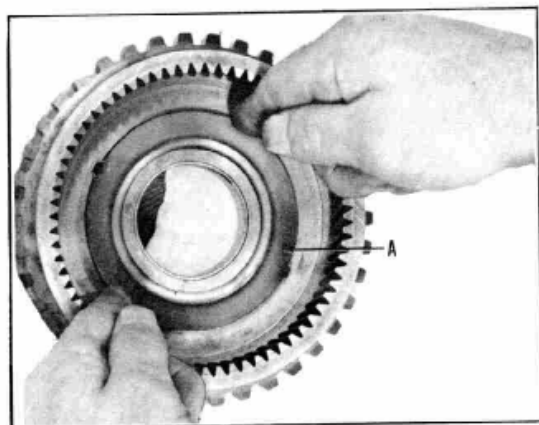

Figure 27
15. Remove the reverse clutch release flat spring retainer and wave spring (A), Figure 27, from the reverse internal gear by lifting straight out, Figure 27. (Retainer has two tangs.)